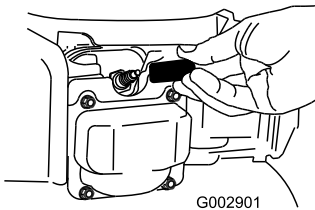

Figure 37
- Disconnect the spark-plug wire from the spark plug (Figure 37) before performing any maintenance procedure.